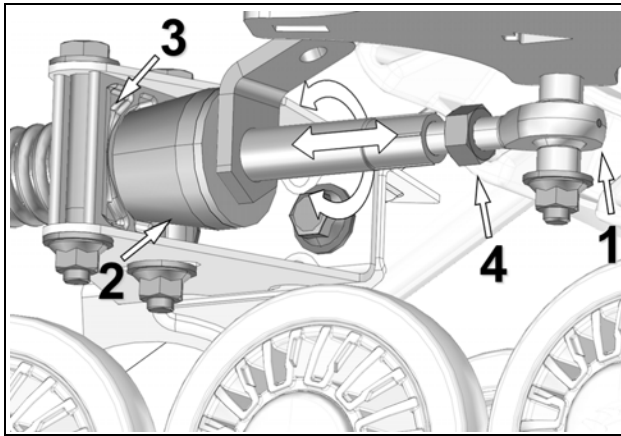

Figure 14
- Loosen jam nut (4). Turn stabilizing arm to adjust length of rod end (1) so that rubber cone (2) applies light pressure on anti-rotation retainer (3). Figure 14.